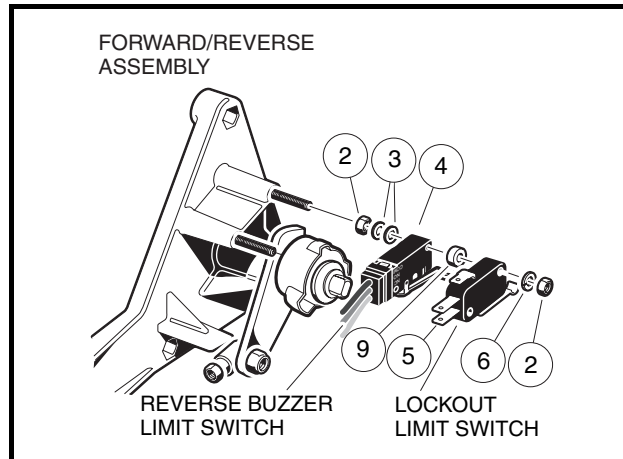

Figure 12-19 Lockout Cam and Reverse Buzzer Limit Switches
3. Disconnect the wires from the lockout cam limit switch (5) located on the back of the Forward/Reverse shifter assembly (**Figure 12-19, Page 12-18**).
4. Remove two nuts (2) and washers (6) from the lockout cam limit switch (5) and slide the lockout cam limit switch off of the screws.
1. Install the limit switch (5) with washers (6) and nuts (2) and tighten to 5 in-lb (0.6 N·m) (**Figure 12-19, Page 12-18**). Place the Forward/Reverse handle in REVERSE to make sure that both switches actuate. See following **CAUTION**.
3. Disconnect the wires from the reverse buzzer limit switch (4) located on the back of the Forward/Reverse assembly (**Figure 12-19, Page 12-18**).
4. Connect the orange wire to the black wire (COM) terminal and the red/white wire to the blue wire, normally open (NO) terminal of the reverse buzzer limit switch (4) (**Figure 12-19, Page 12-18**).